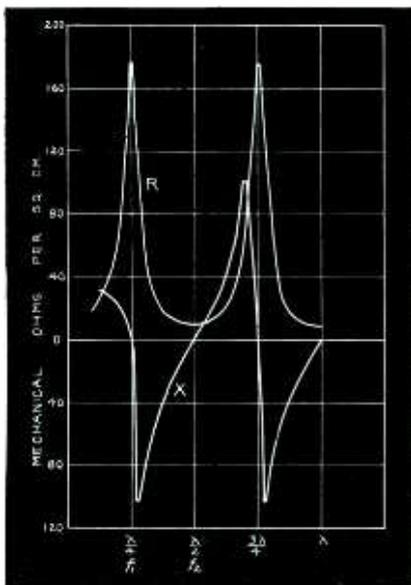

Fig. 1—Driving point impedance of a tube terminated in 10 ohms resistance
In Fig. 1 is shown a plot of Eq. (1), assuming Z_l to be a pure resistance of 10 mechanical ohms per sq. cm. The abscissa is the length of the tube in terms of wave length of sound. When the frequency is such (f_1) that a given tube is one-quarter wave length long ($l = \lambda/4$), it will be noted that the impedance on the piston is a comparatively high pure resistance. When the frequency is increased to a value (f_2) corresponding to $l = \lambda/2$, the impedance becomes that of the open end, that is, the terminal impedance is transferred as if bodily to the driving point and the tube itself contributes no reactance. Furthermore, when the tube is an odd number of half wave lengths long, the phase of the air particle velocity at the open end becomes opposite to that at the driven end. At even numbers of half wave lengths no phase reversal occurs.³ These critical impedance conditions occur repeatedly as the frequency is raised.